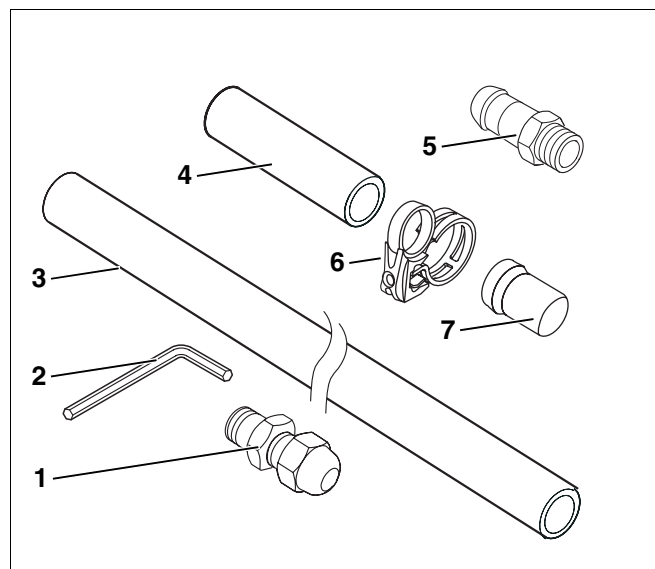

Fig. 4 Basic pipework set
4.2.3 Basic pipe set (per collector array) – Fig. 4